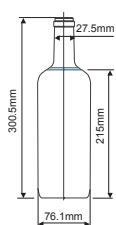
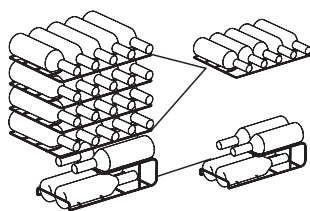
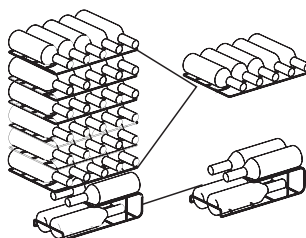

Fig.1
Fig.2
Fig.3
- The capacity for bottle storage in the wine cabinet (MDRW111FGG shown as Fig.2, MDRW150FGG shown as Fig.3) is based on the following marked bottle size (Fig.1) . Oversized bottle may have impact on the number of bottle storage in the wine cabinet.
- For model MDRW111FGG: The recommended maximum bottling volume is 24 bottles, as Fig.2
- For model MDRW150FGG: The recommended maximum bottling volume is 34 bottles, as Fig.3